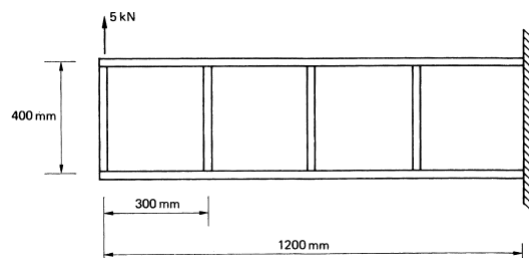

Figure 1
- The beam shown in Figure 1 is assumed to have a complete tension field web. If the cross-sectional areas of the flanges and stiffeners are, respectively, 350mm^2 and 300mm^2 and the elastic section modulus of each flange is 750mm^3 , determine the maximum stress in a flange and also whether or not the stiffeners buckle. The thickness of the web is 2 mm and the second moment of area of a stiffener about an axis in the plane of the web is 2000mm^4 ; $E = 70,000\text{N/mm}^2$. [BL: Apply| CO: 1|Marks: 7]